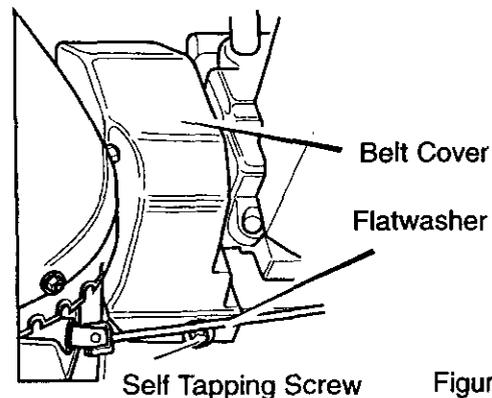

Figure 27
2. Remove the **belt cover**. See Figure 27.
- Remove the **screw** from the **belt cover**. Remove the **belt cover**. See Figure 27.
14. Install the **belt cover**. Tighten the **screw**. See Figure 27.
12. Install the belt cover. Tighten screw. See Figure 27.
2. Remove the **screw**. Remove the **belt cover**. See Figure 27.
6. Install the **belt cover**. Tighten the **screw**. See Figure 27.